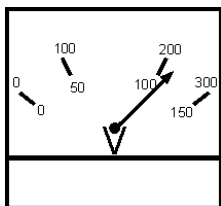
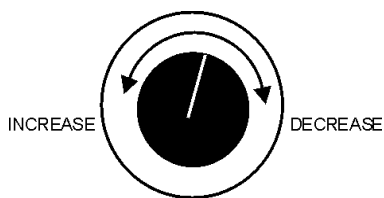

Figure 41. Voltage Meter (Volts)
Figure 42. Voltage Adjust Control Knob
10. The generator's voltage meter (Figure 41) displays the 120 VAC in **VOLTS**. If the voltage is not within the specified frequency tolerance, use the voltage adjustment control knob (Figure 42) to increase or decrease the desired voltage.